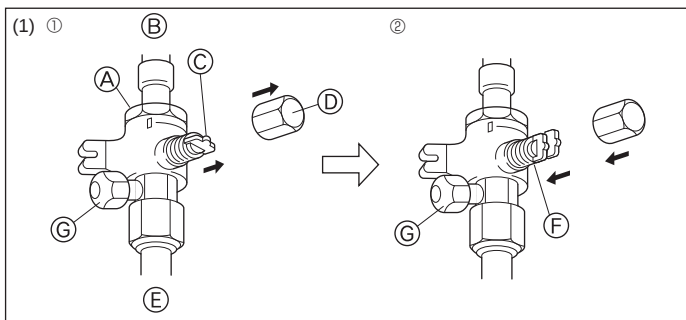
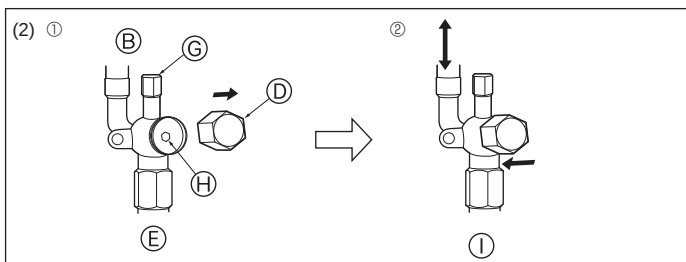

Fig. 4-9
Fig. 4-10
(1) Gas side (Fig. 4-9)
- ① Remove the cap, pull the handle toward you and rotate 1/4 turn in a counterclockwise direction to open.
- ② Make sure that the stop valve is open completely, push in the handle and rotate the cap back to its original position.
(2) Liquid side (Fig. 4-10)
- ① Remove the cap and turn the valve rod counterclockwise as far as it will go with the use of a 4 mm hexagonal wrench. Stop turning when it hits the stopper. (ø6.35: Approximately 4.5 revolutions) (ø9.52: Approximately 10 revolutions)
- (A) Valve